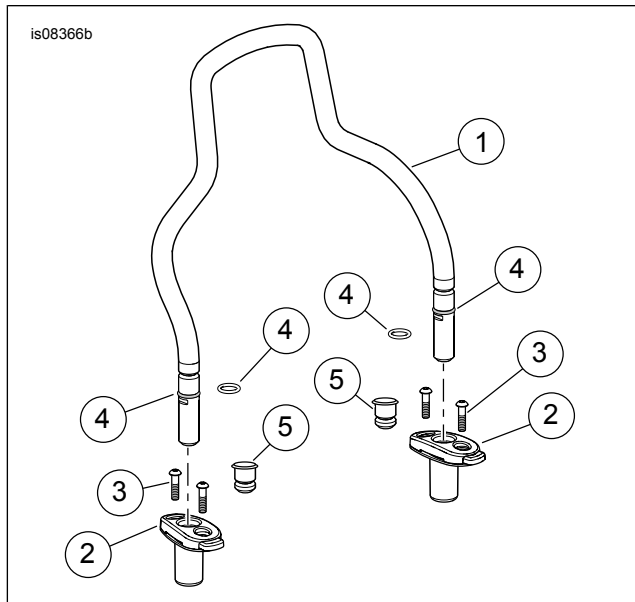

Figure 3. Service Parts: FLRT Upright & Docking Kit
Refer to Figure 3. and Refer to Table 1.
5. Refer to Figure 3. If the fit of the upright in the docks is not snug, remove the installed O-rings and replace with the larger diameter O-rings. Repeat steps 3 and 4.